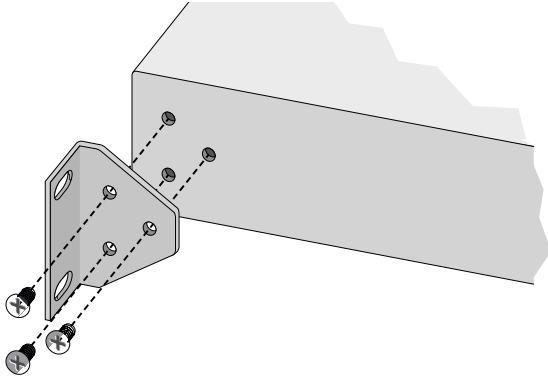

Figure 9. Installing the Mounting Bracket
5. Insert the three screws provided with the unit and tighten with a suitable screwdriver, as shown in Figure 9.